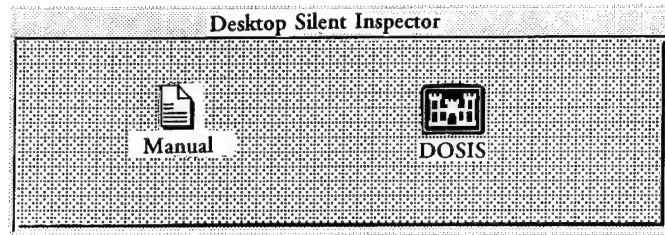
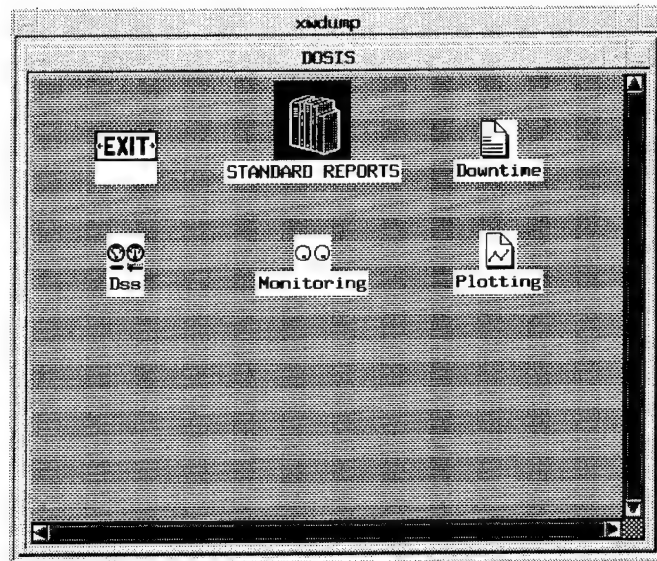
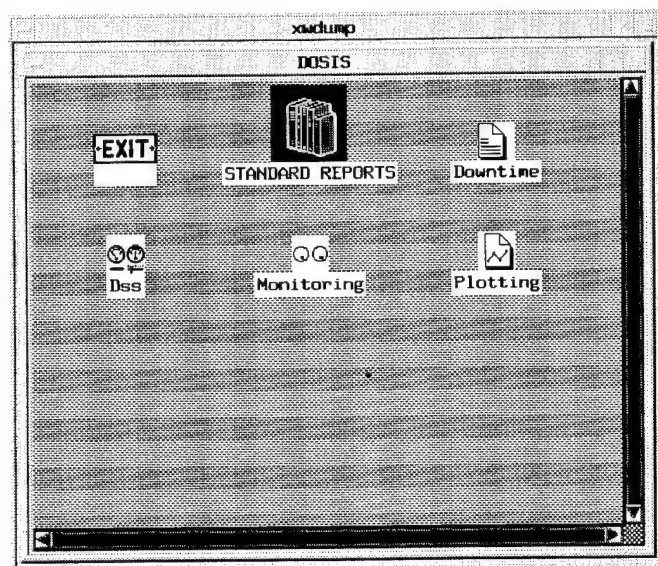

Figure 4. First screen of the SI system
Figure 5. Main screen of the SI system
Figure 9. Main menu screen of the SI system
The user ID and password may be changed by the system administrator, as outlined in Chapter 3, so the user ID and password currently in use should be checked. Entering an approved Unix user ID and password causes the first SI screen to appear (Figure 4), and the system's central database within the SHIP component to become active.
To begin operating the SI software, and access the system's main screen (Figure 5):
If the DSS and SHIP components are running on separate computers, the SHIP system should be running prior to starting the DSS so that the DSS can send data to the SHIP database. If the DSS and SHIP components are running on the same computer, as is the case with the Training and Reference SI, the SHIP system will always be started prior to starting the DSS. The SHIP system is effectively started by double clicking on the DOSIS icon (Figure 4) as described in Chapter 4. The DSS is then started by double clicking on its icon in the main screen (Figure 5 or Figure 9).
As mentioned in Chapter 4, the user ID and password may be changed by the system administrator, so check the user ID and password currently in use. Entering an approved Unix user ID and password causes the first SI screen to appear (see Figure 4), and the system's database within the SHIP component to become active.
To access the system's main menu screen (Figure 9), and the SHIP component modules:
- Double click on the **DOSIS** icon on the first SI screen (see Figure 4).
The main menu screen also provides access to the **Setup** function (icon not shown in Figure 9 above). This function allows the user to input into the system database information related to a dredging project and dredge. The user cannot access or modify in any way the data maintained within the database which originated in the DSS, or was computed by the SHIP component from the DSS measured data.